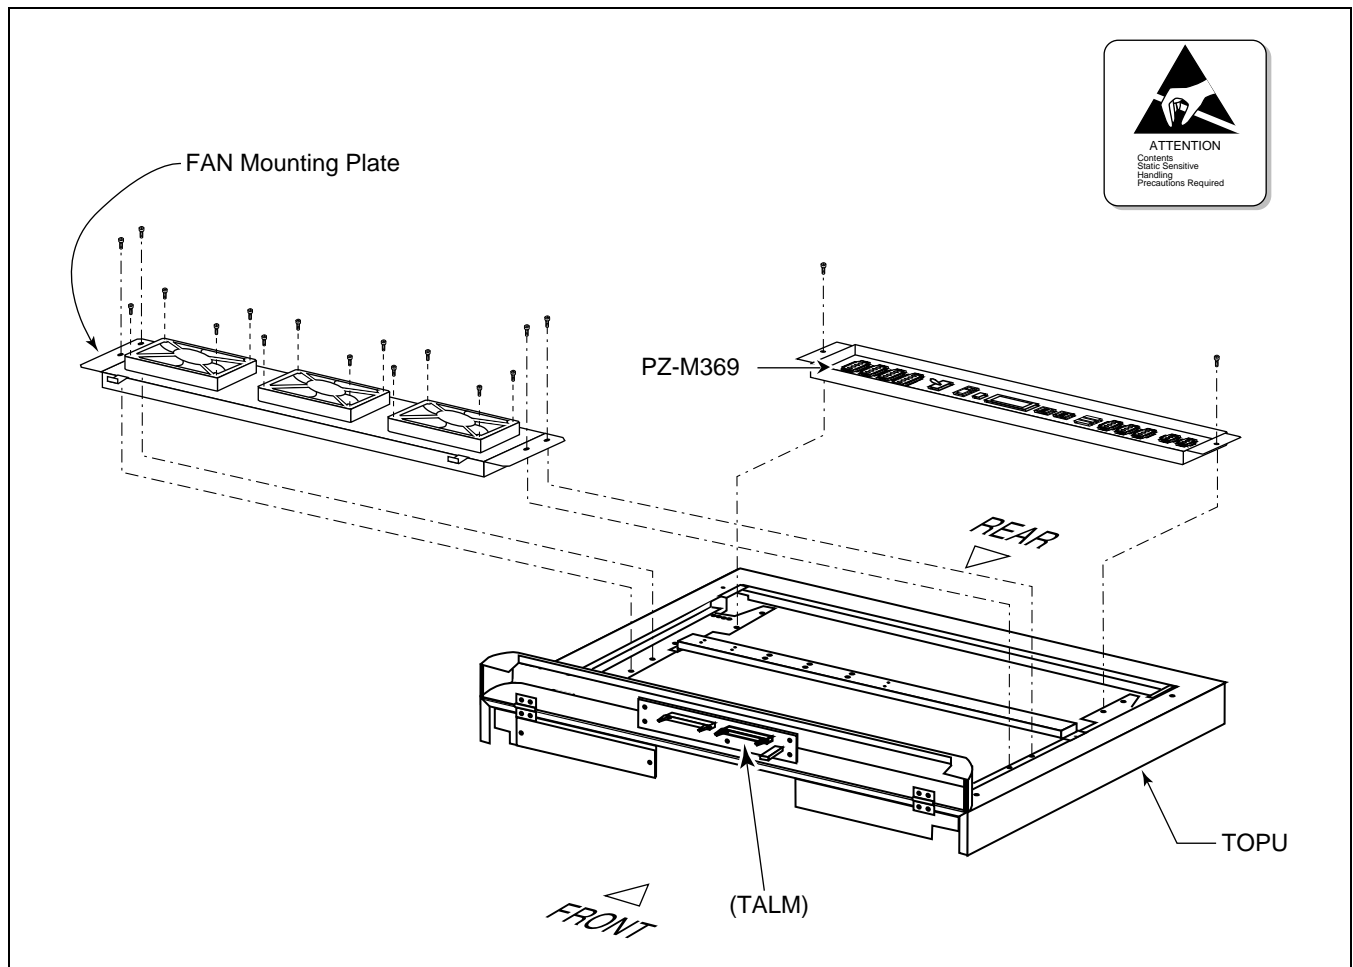

Figure 005-3 Mounting of FANU (on TOPU)
When any IMG is configured by two PIMs or less, the FANU is mounted as shown in Figure 005-3. Because the FANU is already mounted on the TOPU of the cabinet, perform STEP 4 through STEP 7 only, excepting a special case (STEP 1 through STEP 3 are not required in the normal cases).
- STEP 1: Referring to Figure 005-3, mount the three FANs onto the FAN Mounting Plate. Then, fasten every four screws.
- STEP 2: Accommodate the FAN Mounting Plate (tipped with three FANs) onto the TOPU. Then, tighten the four screws (refer to Figure 005-3).
- STEP 3: Mount the PZ-M369 onto the TOPU. Then, fasten the two screws (also refer to Figure 005-3).
Note 2: For details on the “TALM” connector (TOPU panel), refer to Figure 005-3.
When any IMG is configured by 3 or 4 PIMs, the FANU must be accommodated within the FAN BOX in the center of the cabinet. Because the FANU is originally mounted on the TOPU as shown in Figure 005-3, relocate the FANU into the dedicated FAN BOX as per the STEPs below:
STEP 1: Referring to Figure 005-3, remove the FANU from the TOPU.